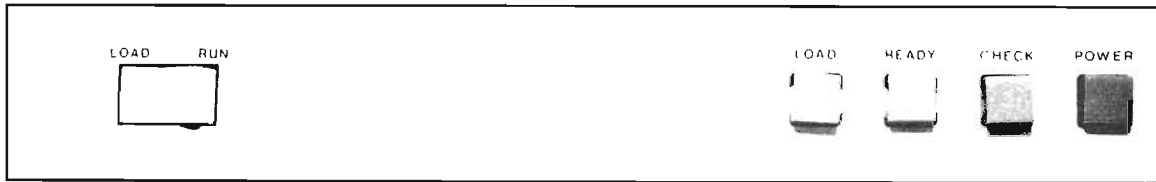

FIGURE 33
3.11.1 Upper Panel Lights and Switches (Figure 33)